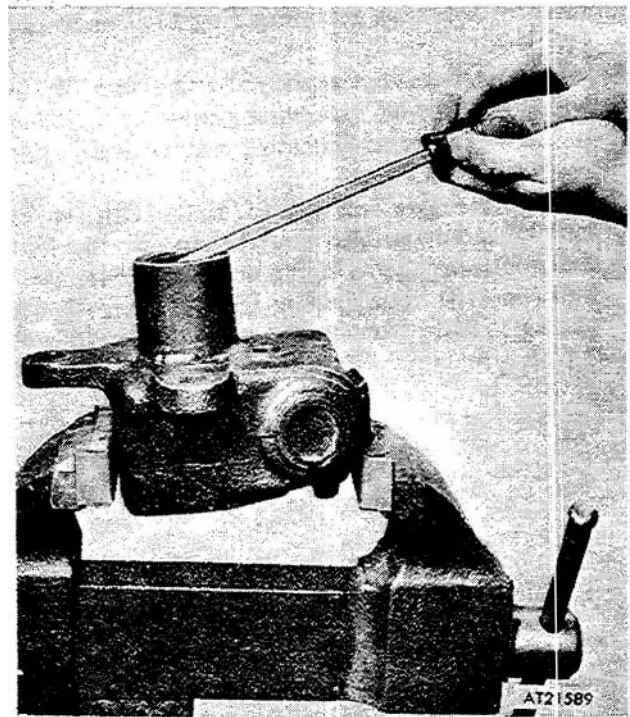
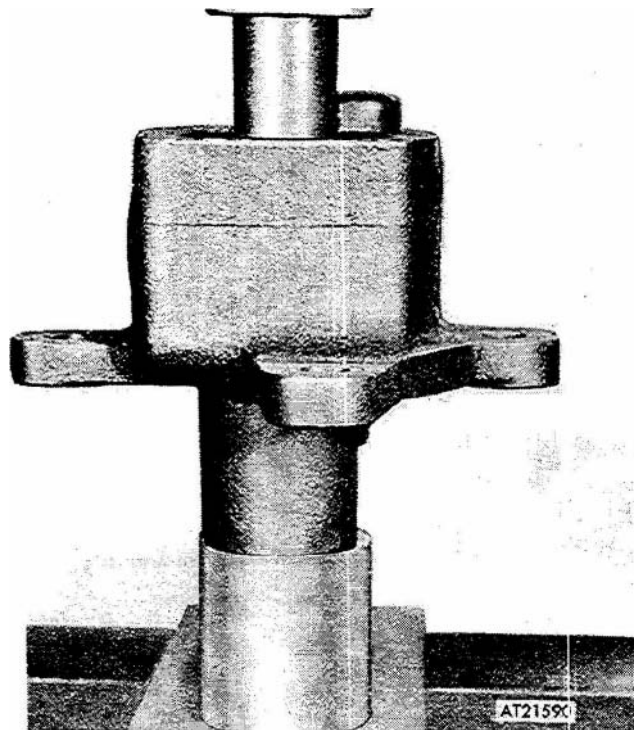

Figure 3-216. Removing shaft seal from housing
Figure 3-217. Pressing shaft bushings from housing.
(6) Remove seal (22) from housing (20) as shown in figure 3-216. Press bushings (23, fig 3-212) from housing (fig 3-217).